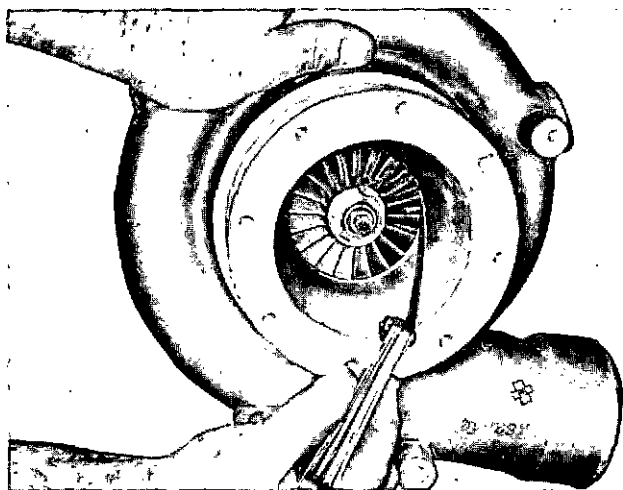
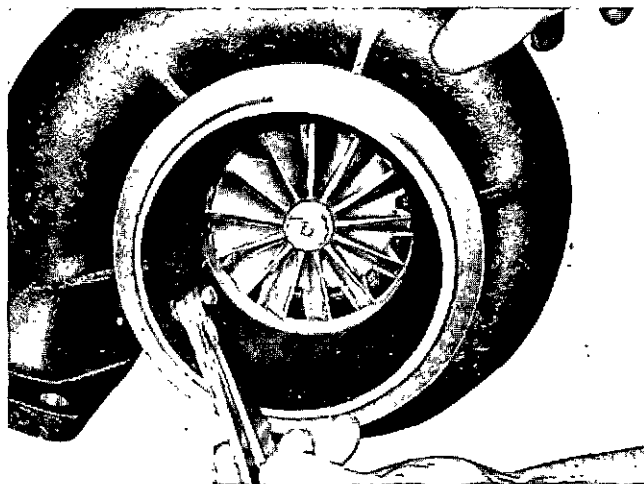

Fig. 2-14, (T3522). Checking the compressor wheel radial clearance
Fig. 2-15, (T3523). Checking the turbine wheel radial clearance
- b. Using a feeler gauge, check the minimum distance between the tip of the wheel vanes and the bore. On the T-35 turbocharger clearance must be 0.0011 to 0.0409 inch [0.028 to 1.039 mm] on the compressor end, Fig. 2-14, and 0.0023 to 0.0397 inch [0.058 to 1.008 mm] on the turbine end, Fig. 2-15.